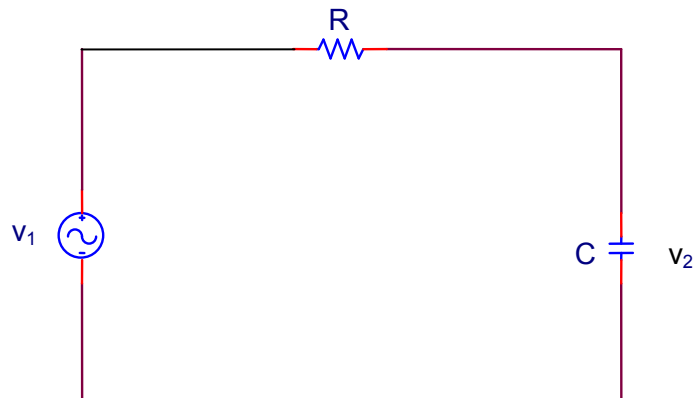

Figure 10.2
1. For the circuit in Figure 10.2
1. Construct the circuit of Figure 10.2, with $R = 5.1\text{k}\Omega$ and $C = 0.01\mu\text{F}$. Set the sine wave generator for a peak amplitude of 1 volt. Vary the frequency from 10 Hz to 100 kHz and use the oscilloscope to measure the magnitude and phase angle (with respect to the input) of v_2 .